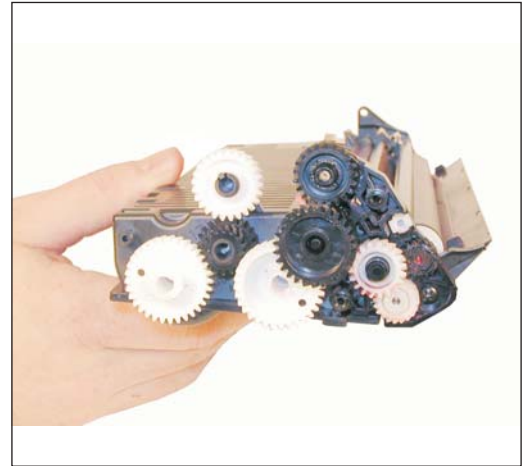

Figure 86
54) Install the drive gears as shown. See Figure 86